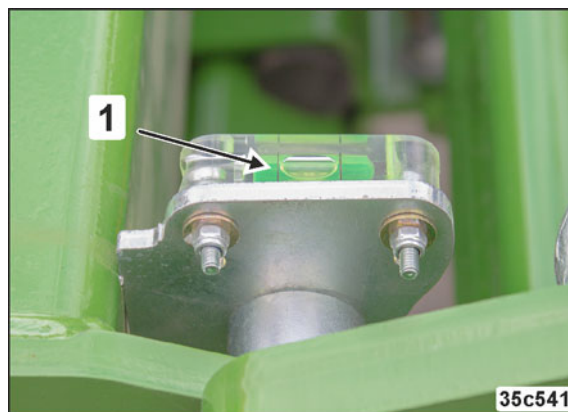

Fig. 160
2. Adjust the tractor lower link such that the horizontal spirit level (Fig. 160/1) on the coulter frame indicates a horizontal position.